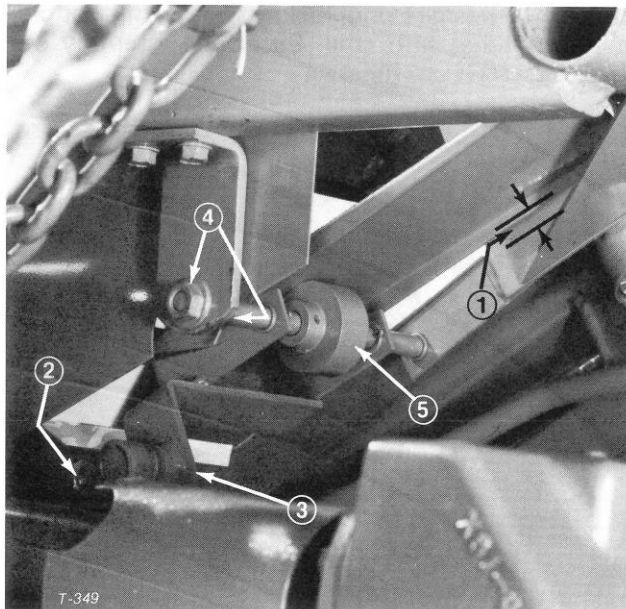

Figure 57
2. Depress traction pedal fully. There must be 1/16 inch (1.6 mm) between inside front edge of pedal and triangular support brace (Fig. 57). If distance is as specified, the control rod is adjusted correctly. If distance is not as specified, proceed to step 3 for an adjustment.
3. Loosen jam nut away from front of control rod (Fig. 57). Remove cotter pin and slotted nut retaining tapered socket in pivot mount on bottom of traction pedal (Fig. 57).
1. Loosen two nuts securing traction pedal shaft on right side of pedal (Fig. 57).